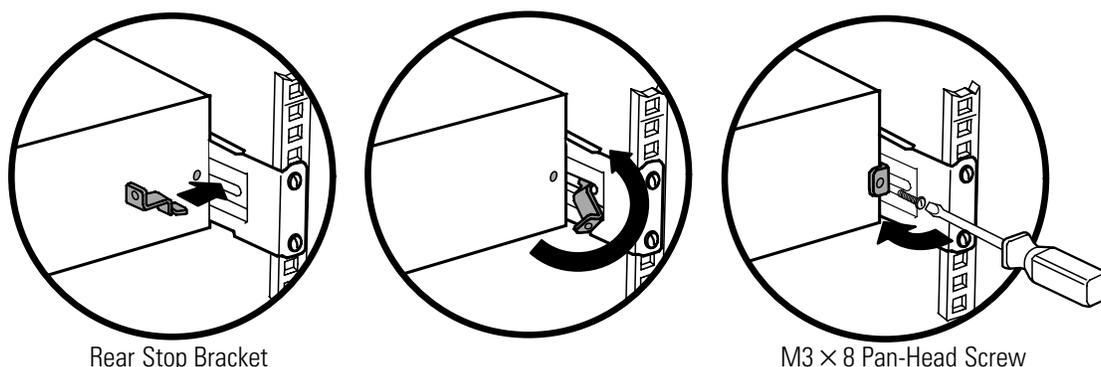

Figure 8. Securing the Back of the Cabinet (Optional)
- 13. Optional.** Insert a rear stop bracket through the inside of each rail behind the UPS. Rotate each bracket and slide the bracket until it fits tightly against the UPS's rear panel. Secure each bracket to the UPS with one M3 × 8 pan-head screw. See Figure 8.